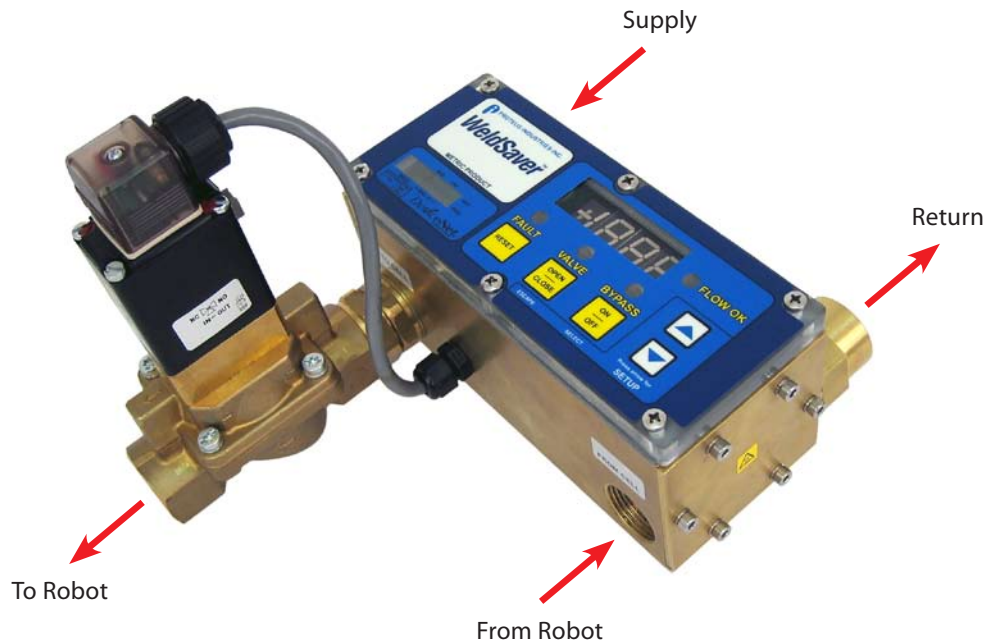

Figure 2: Plumbing connection locations of the WS2G WeldSaver
3. Refer to Figure 2 below to identify the water connection ports.